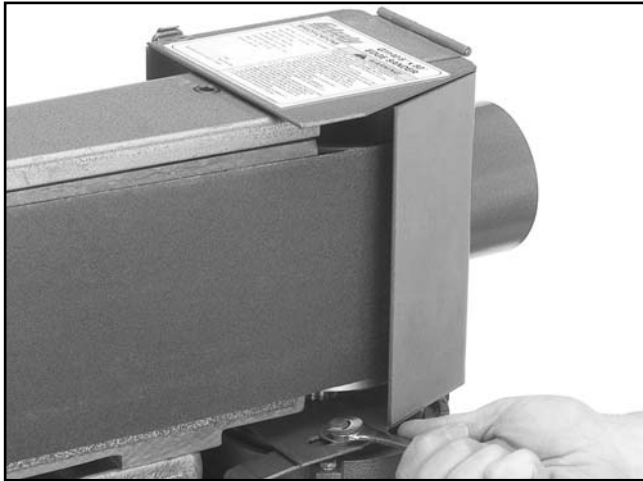

Figure 9. Dust port attached to brackets.
1. Attach the dust port to the support brackets with the three $\frac{5}{16}$ "-18 x $\frac{1}{2}$ " hex bolts and washers, as shown in **Figure 9**, but DO NOT completely tighten the bolts yet.